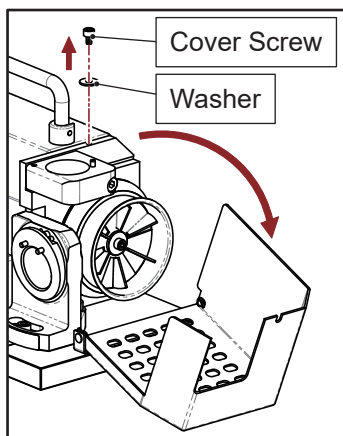

Fig. 13-2
③ Loosen the screw from the grinding wheel cover to open the cover. (Fig. 13-2)